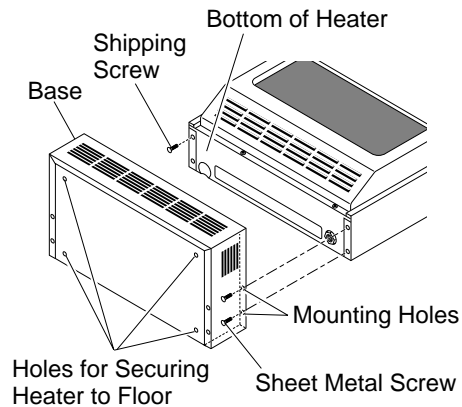

Figure 16 - Attaching Heater to Hearth Base
1. Position hearth base in desired location. Mark holes for drilling (See Figure 16). Remove hearth base.
3. Line up mounting holes on top of hearth base with holes in bottom of heater (see Figure 16).
4. Using a Phillips screwdriver, secure hearth base to heater with four sheet metal screws (see Figure 16).